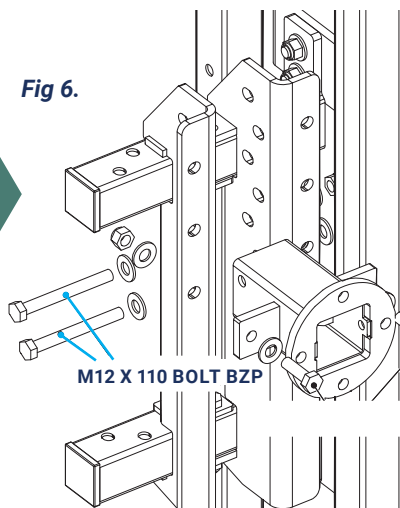

Fig 6.
3. Fix the Superscoop bracket to the channel using 2no M12 x 110 bolts and 2no M12 x 40 setscrews (Fig 6). The height of the Superscoop arm can be adjusted by using the other available holes (see page 5).